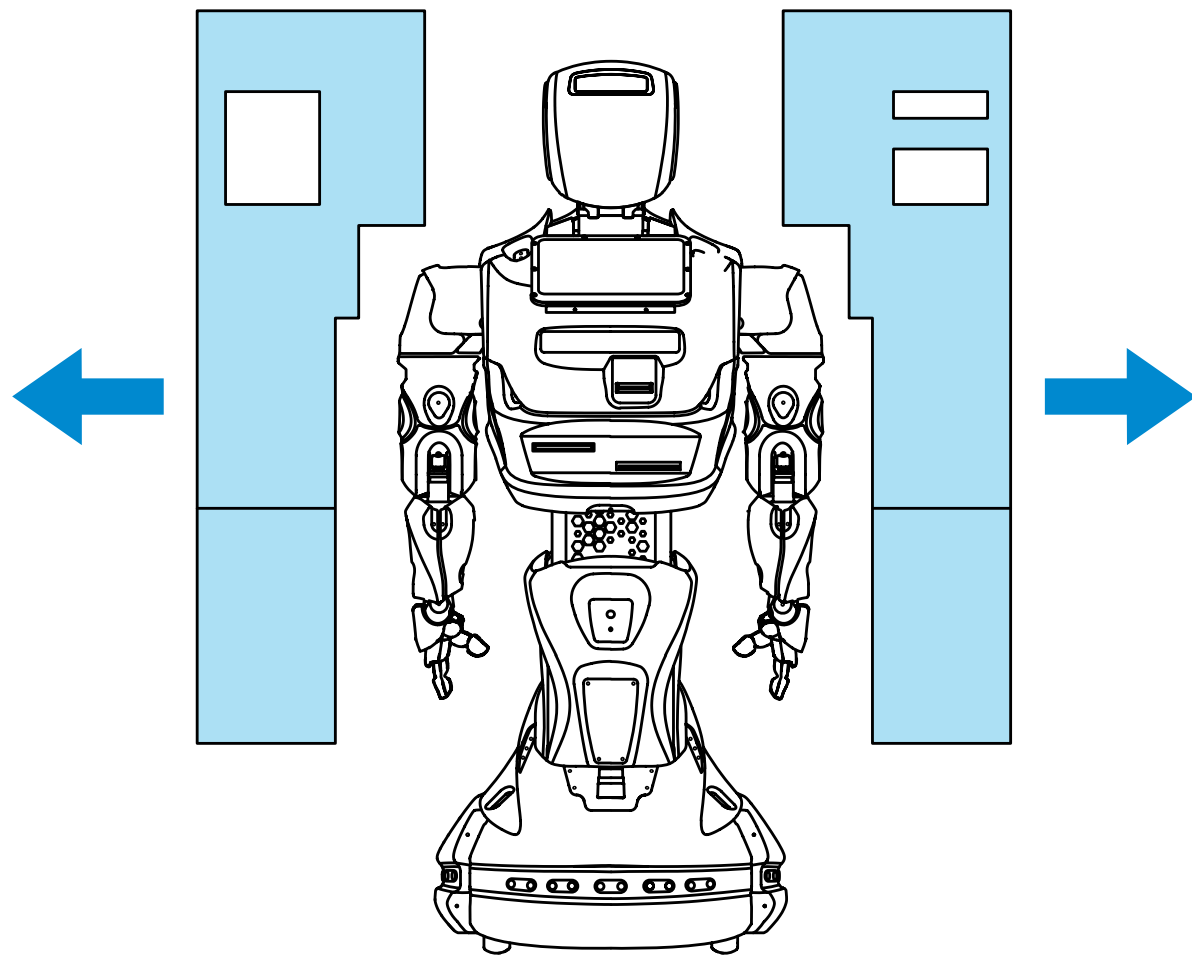

Fig. 5.9. Removing the robot from the lodgement
7. Remove the two lodgement elements from the robot by gently pulling them apart (Fig. 5.9).